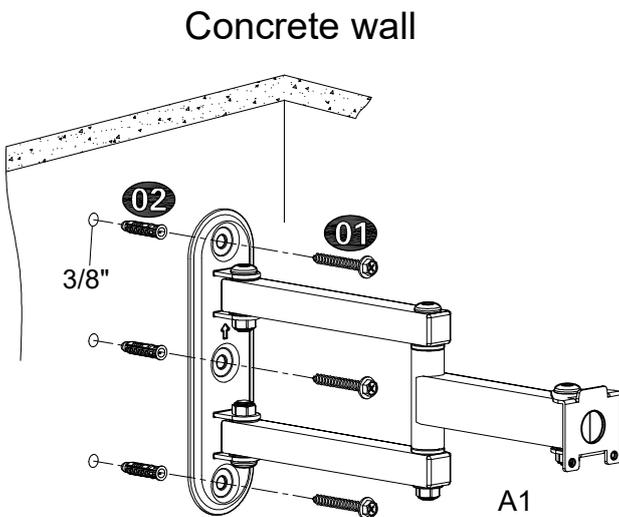

Figure 2 (keep the wall plate level)
Step 2: Pls remove the plaster board on the surface of concrete wall when assembling mount on the concrete wall. Hold wall plate (A1) against wall at desired position on concrete wall, then using a pencil mark 3 hole locations. Then drill holes according pencil marks using 3/8" size drill bit to a depth of 2.36". Then you will need to use wall anchors (02). Insert wall anchors (02) into holes, you may need to use hammer to lightly tap wall anchors into wall. Then fix wall plate (A1) to the wall with screws (01). (Figure 2)